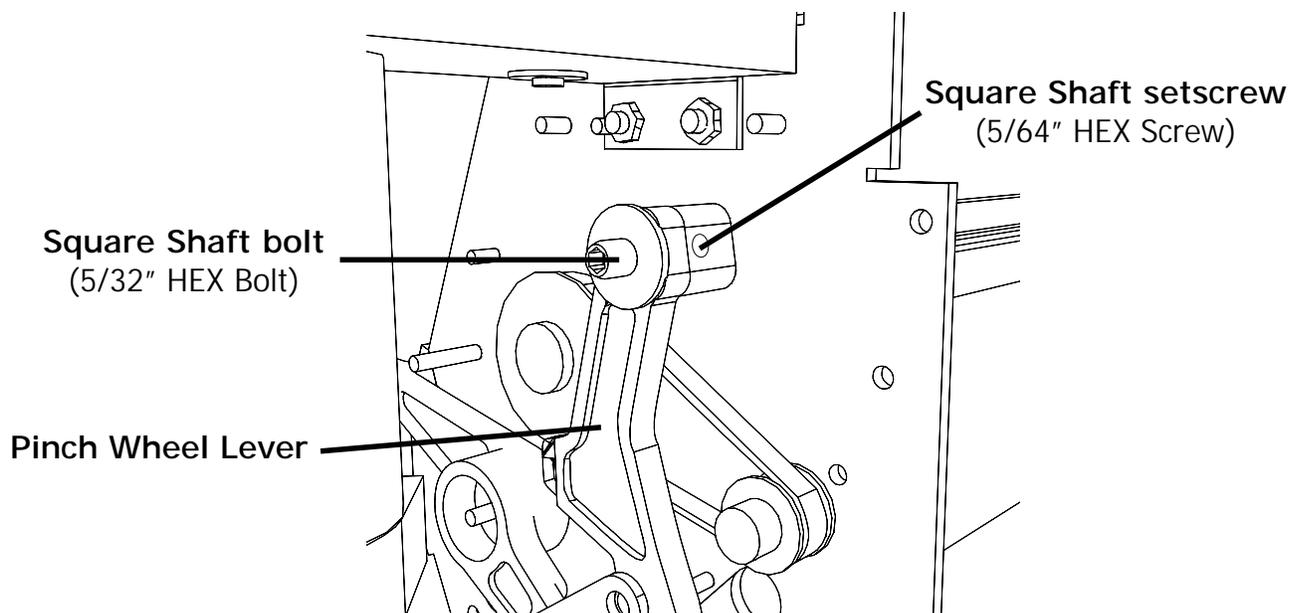

Fig. 2 - Machine with right side cover removed showing the pinch Wheel lever assembly
- 1) Remove the right and left side covers of the machine. There are two (2) silver phillips screws attaching the rubber feet to the bottom, and two (2) black phillips screws holding each cover to the end plates in front, and back.
- 2) On the right side of the machine (Keypad side), locate the pinch wheel lever and remove the square shaft bolt (See Fig. 2). Loosen the setscrew located on the back side of the lever (*Do not remove*).